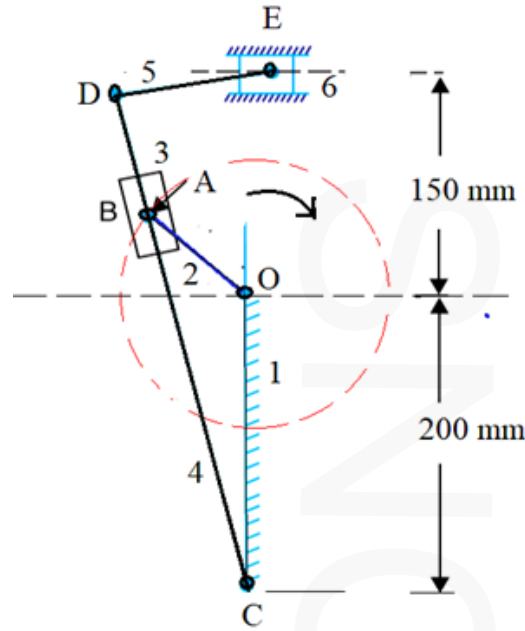

Fig. 3
- 13 For the shaper mechanism shown in Fig. 3, the crank OA (link 2) is 75 mm, slotted lever CD is 355 mm and the link DE is 100 mm. The crank rotates at 200 rpm in clockwise direction. When crank makes an angle 30° with horizontal, determine 14